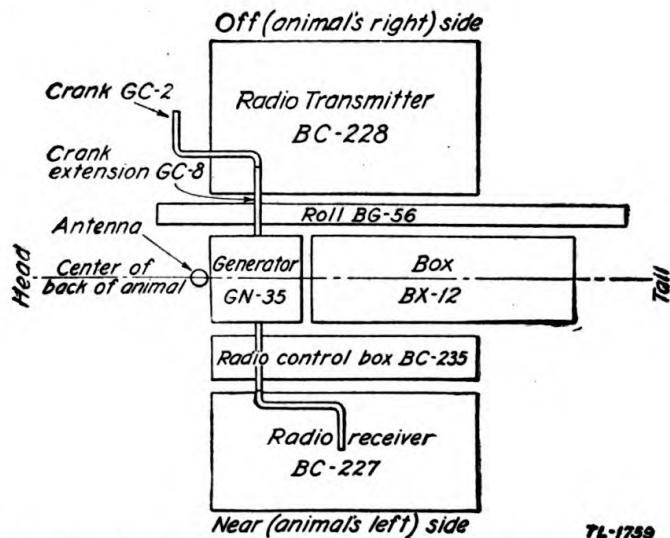
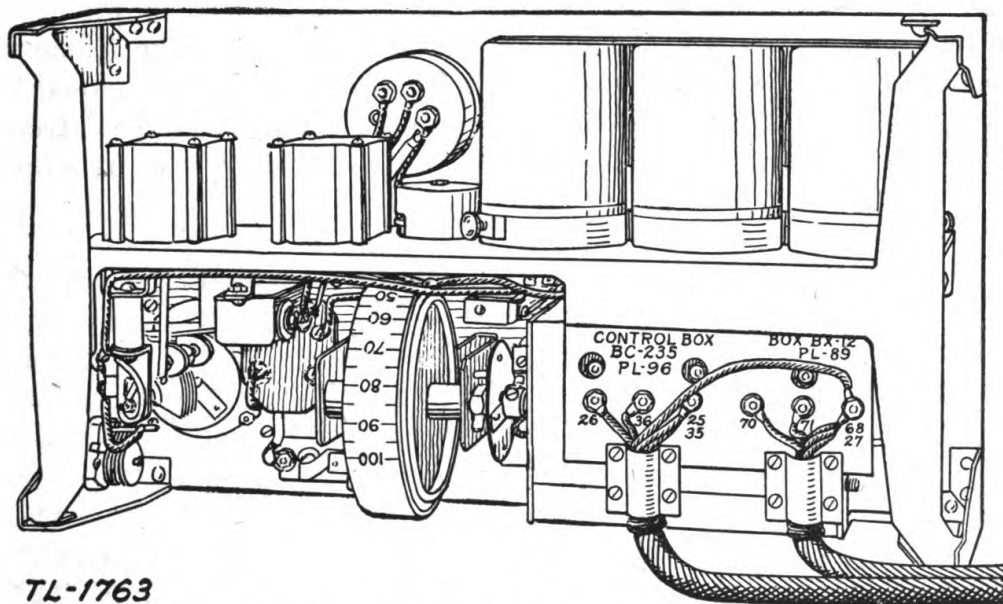

FIGURE 2.—Location of parts of radio set SCR-203 on the frame and on the animal.
FIGURE 6.—Inside chassis view of radio receiver BC-227 or BC-227-A.
(fig. 1), which in turn is clamped to a Phillips pack saddle for transportation on one pack animal. Mounted on this frame, however, the set may be transported otherwise, and operated either on the ground or in the vehicle transporting it, as well as on an animal. (See par. 4.) Figure 2 shows how various parts of the set are located with respect to the frame and to the animal. (See par. 21.)
14. **Generator GN-35.**—The generator, outlined in figure 2, together with the voltage regulator and ripple-filter elements, is contained in a metal case and is mounted on the frame by means of a metal strap over the generator.
(3) Insert a tube VT-50 in the center socket marked MOD VT-50, and a tube VT-25 in each of the side sockets marked PA VT-25 and MO VT-25. Close and latch the panel.
(4) Remove the four wing nuts and lock washers from the mountings. Place the transmitter on the frame in the position indicated in figure 2, being sure that its two cords CD-202 and CD-216 are placed untwisted between the back of the case and the two horizontal members of the frame. Secure the transmitter by replacing the washers and wing nuts.
(5) Using a suitable length of wire W-124 provided with the set, connect the GND binding post of the transmitter to the unmarked binding post on the offside rear member of the frame.
b. Receiver.—(1) Face the panel, release the three snap slides on it, raise the slide opening at the bottom of the case, grasp the two handles at the ends of the panel, and lift the assembly shown in figure 6 out of the case. If this assembly is removed at any time after the